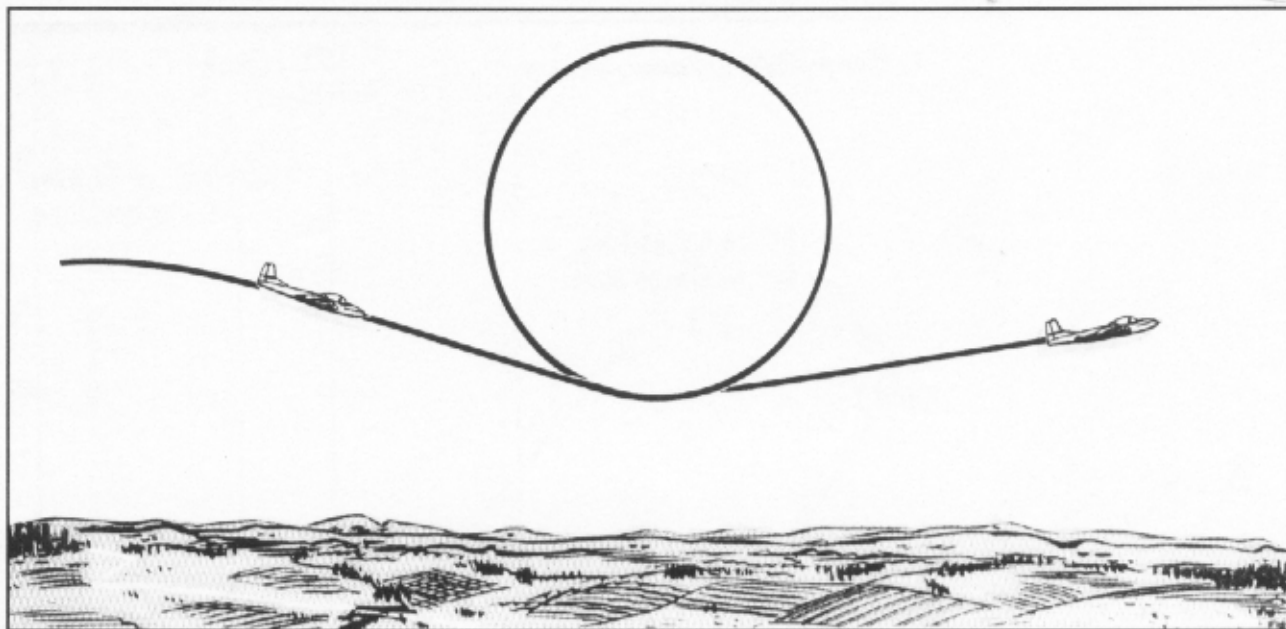

Figure 5.5. Loop.
5.16. Loop. The loop is a 360° turn in the vertical plane (figure 5.5). Since it is executed in a single plane, the elevator is the basic control. The ailerons and rudder are used for coordination and directional control. The objective of the maneuver is to maintain a constant nose track.